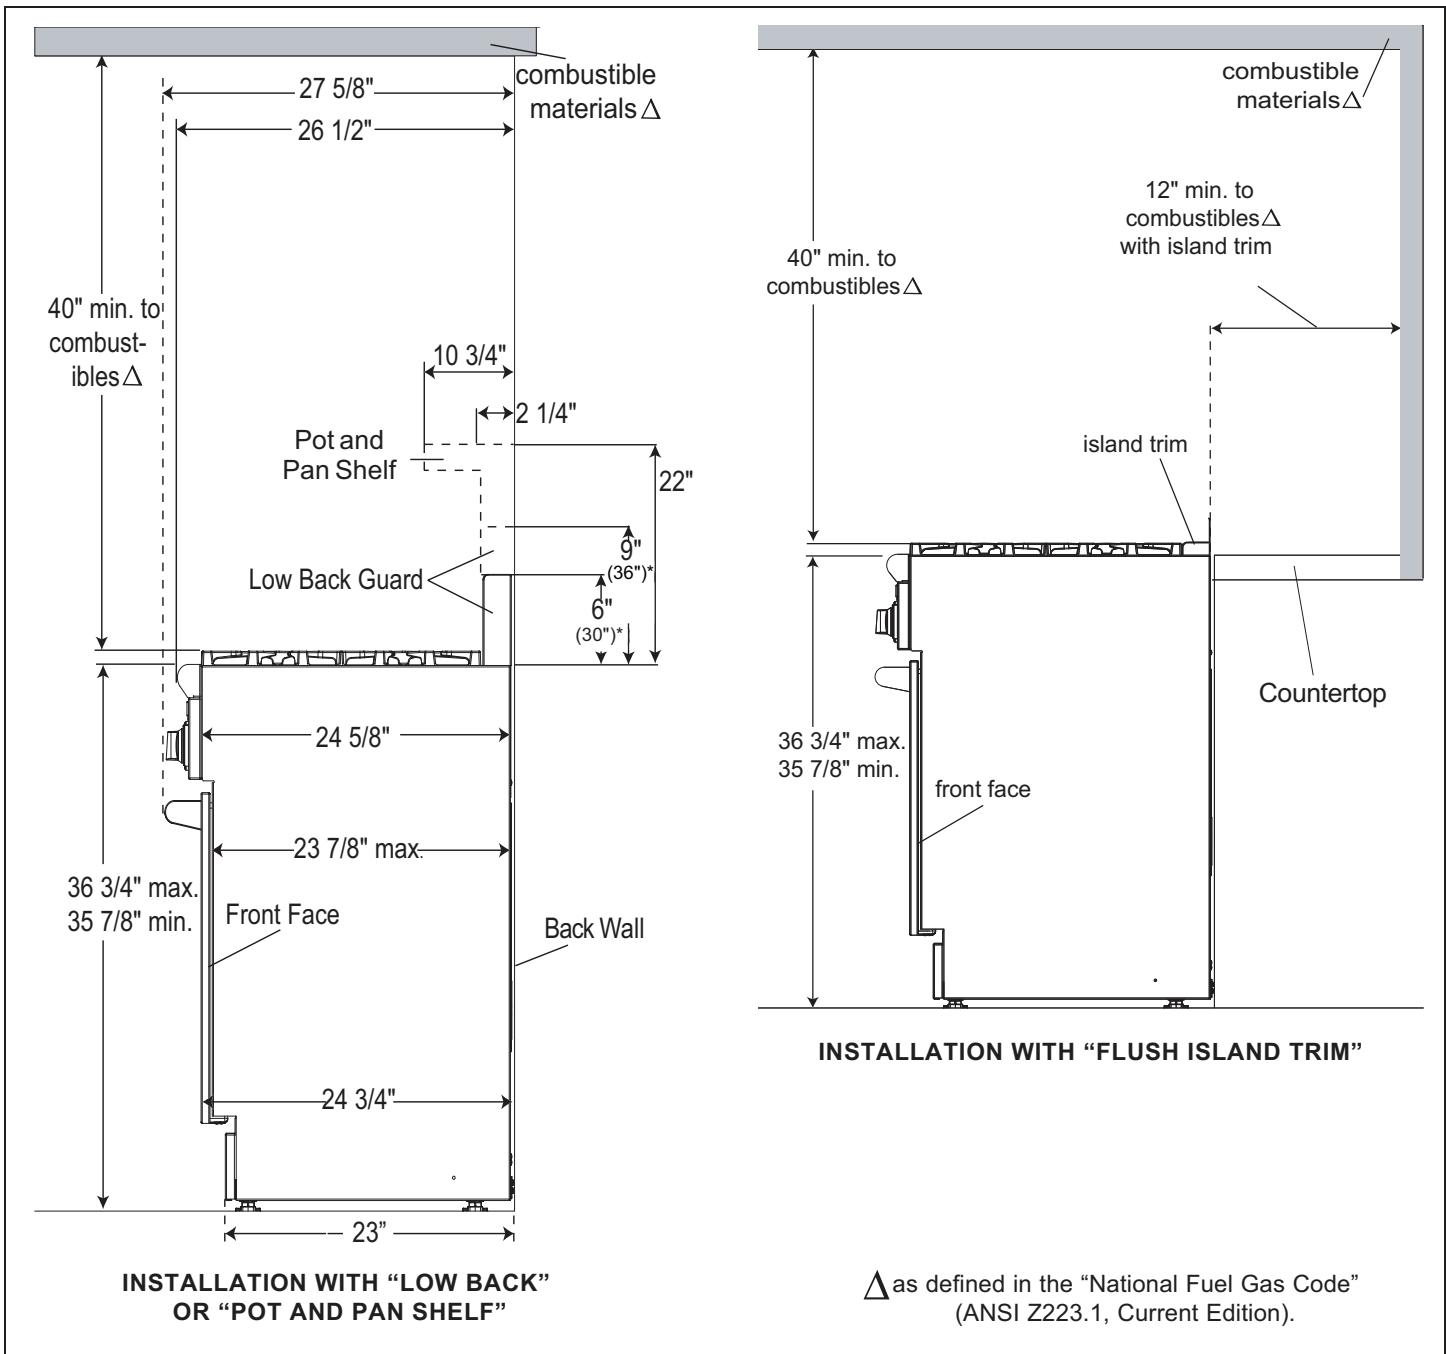

Figure 2: Side View
2. These ranges may be recessed into the cabinets beyond the edge of the front face of the oven (See Figure 2).
5. When there is less than a 12" horizontal clearance between combustible material Δ and the back edge of the range above the cooking surface, a Thermador Low Back or Pot and Pan Shelf must be installed. (See Figure 2). When clearance to combustible material Δ is over 12", a Thermador Flush Island Trim may be used. Figure 2 indicates the space required for each type of backguard.
8. A (10) inch minimum clearance is needed when the range is installed beside a combustible side wall.